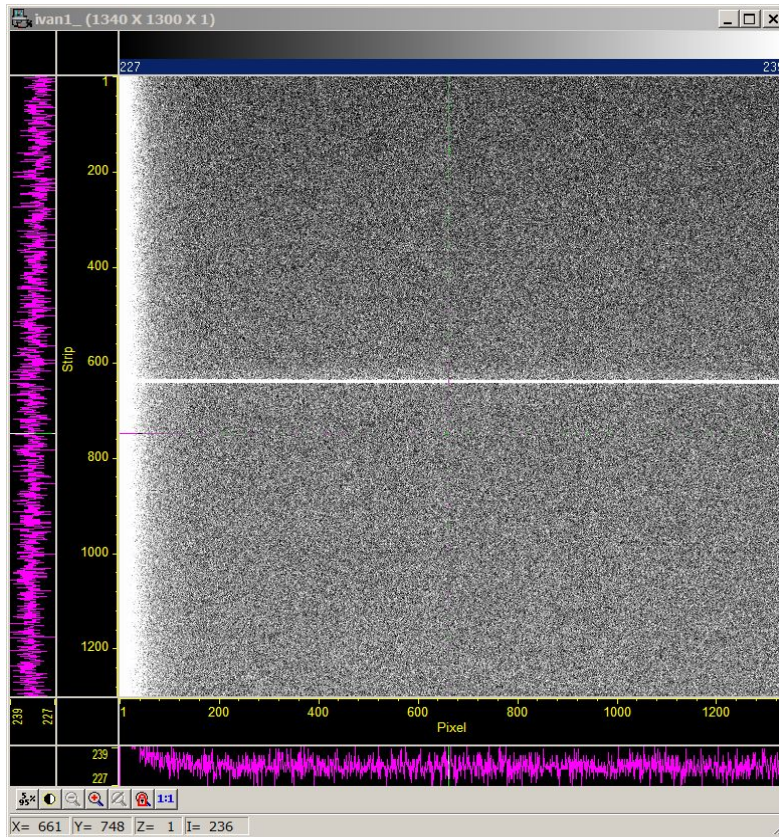
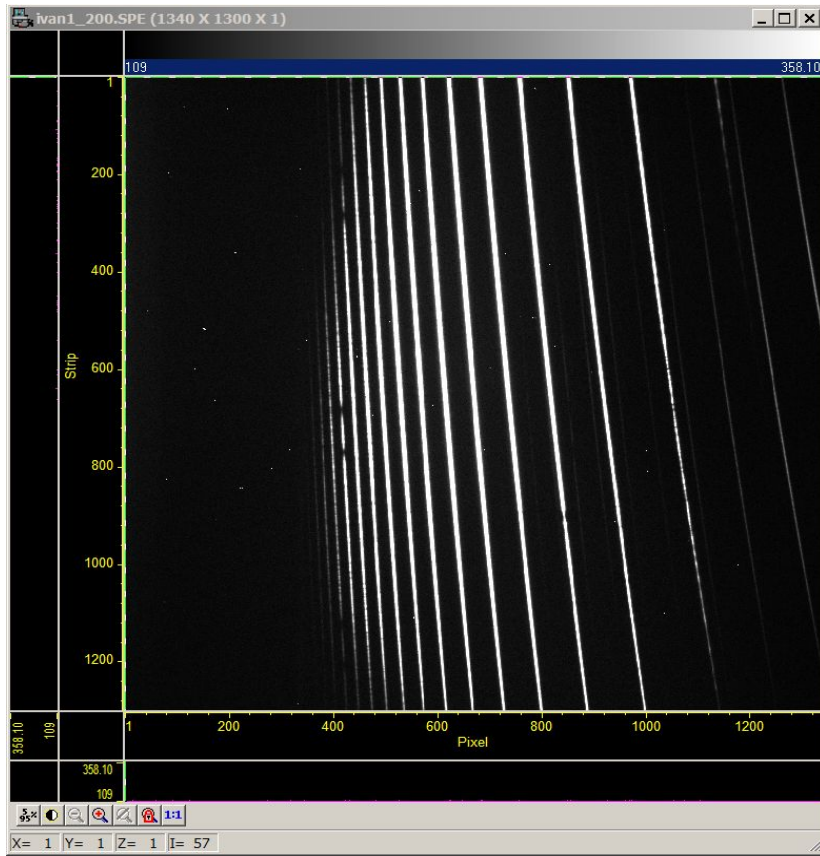

Figure 45
Figure 59
- Figure 45 shows the image of the 2” slit. Draw a box on the slit as in Figure 46, and zoom on it (Figure 47).
The slit for Echelle (*Figure 58*) is very short and shifted with respect to the long slit (*Figure 45*). The fixed position in pixel of the Echelle slit center is $(X_e, Y_e) = (394, 649)$. So the procedures for acquiring Echelle spectra is exactly the same for the long slit described in section 6 with the difference that we have to move the target in the (X_e, Y_e) position. An example of spectrum is showed in *Figure 59*.